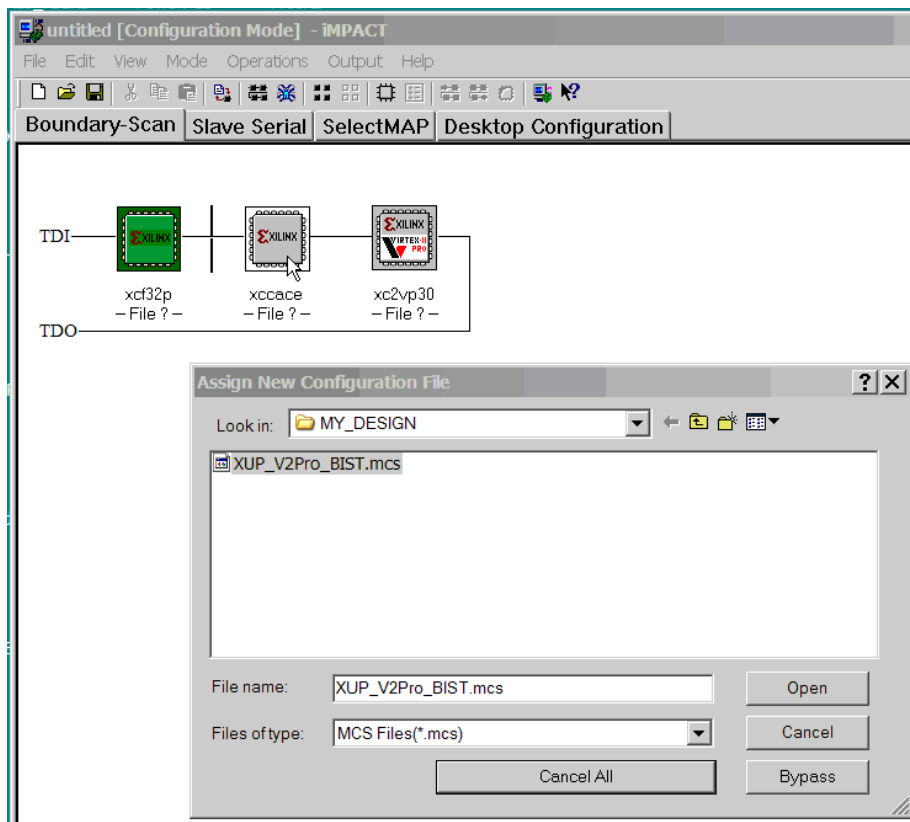

Figure C-4: Assigning New PROM Configuration File
- Navigate to the directory where you saved the XUP\_V2Pro\_BIST.mcs file. Select this file as the Configuration file for the XCF32P PROM, the first device in the JTAG chain identified by iMPACT as shown in Figure C-4. Click on the Open button.